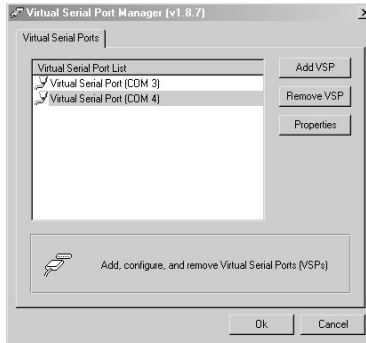

Figure 14: The Virtual Serial Port Properties Window (COM 3 and COM 4)
3. You can set a virtual port for each local port on your **VS-44HC** (see Figure 14).